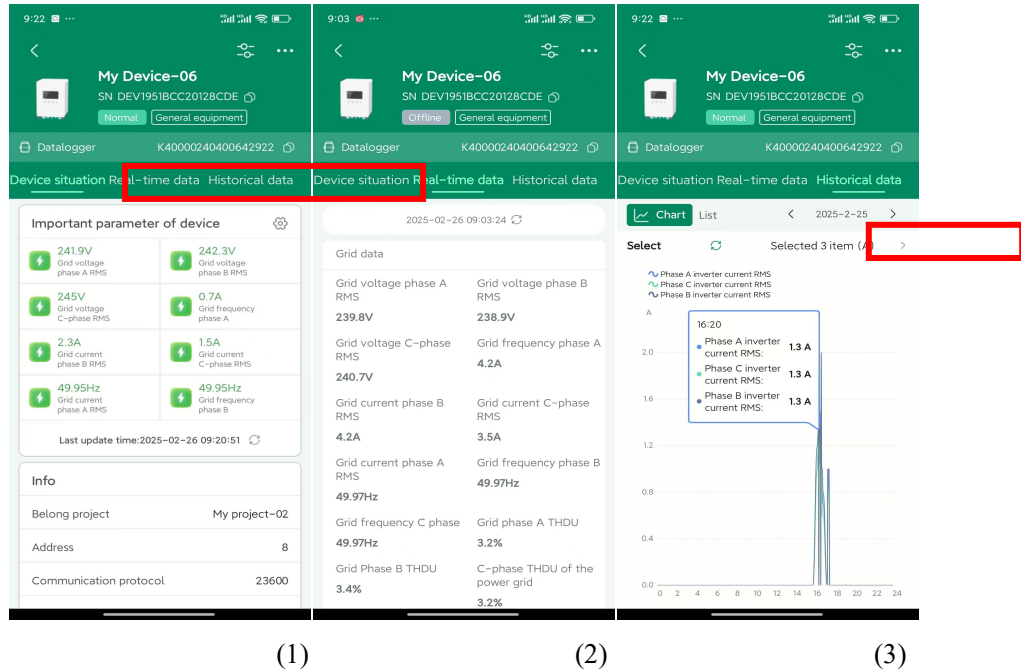

Figure 4.19 APP device selection interface
APP: Enter the device information interface, as shown in Figure 4.19 (1). You can slide the option bar in the box to select different options; Tap "Real-time Data", as
shown in Figure 4.19 (2), to view the latest device information (refresh every 5 minutes); Tap "Historical Data", as shown in Figure 4.19 (3), to view the data chart of the selected parameters within 24 hours. Tap "Selected 3 items" to select and switch the data chart to be displayed.